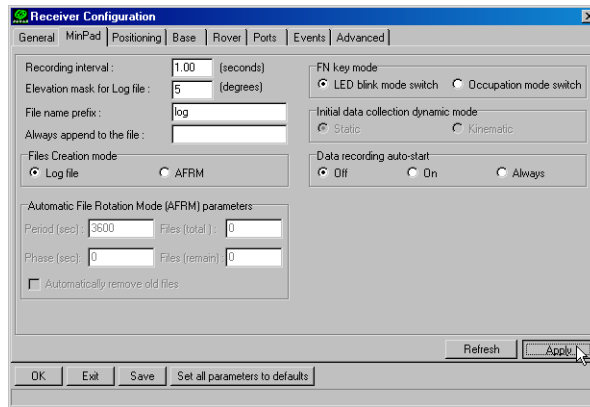

Figure 2-21. Receiver Configuration – MinPad Tab
4. Click the MinPad tab, set the following parameters and click **Apply** (Figure 2-21). See the following pages for descriptions of these parameters.